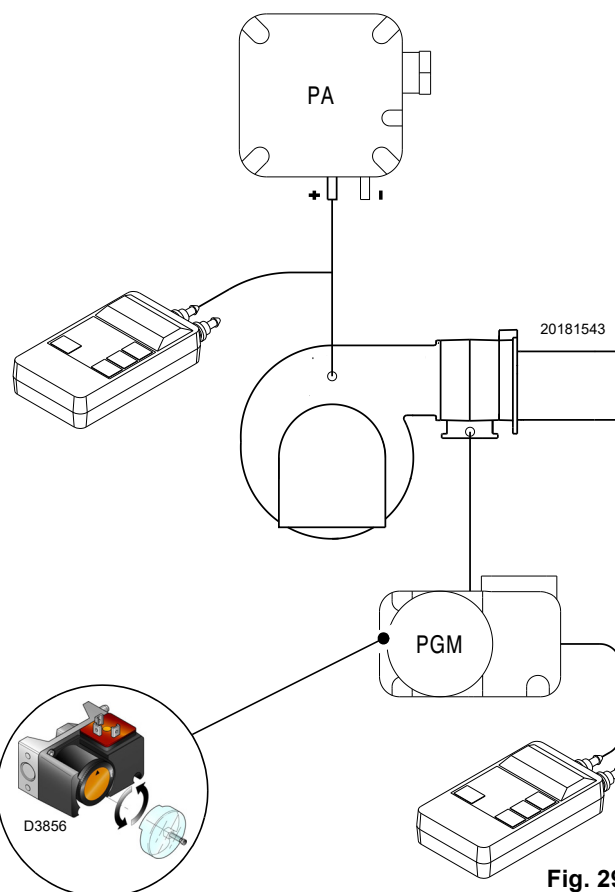

Fig. 29
- Adjust the maximum gas pressure switch (Fig. 29 on page 27) to the end of the scale.
Adjust the maximum gas pressure switch (Fig. 29) after making all other burner adjustments with the maximum gas pressure switch set to the end of the scale.